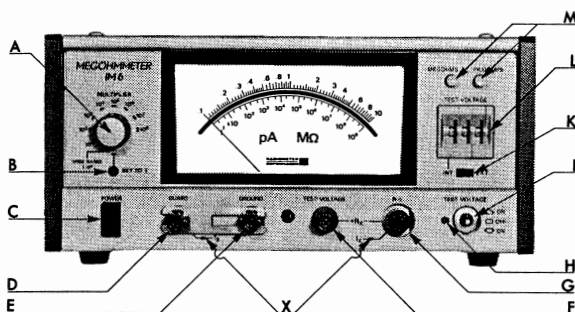

Fig.D1. Front Panel Controls and Terminals.
Refer to Figs.D1 and D2.
- Depress the power switch C, Fig.D1. The built-in lamp should light when the line supply is turned on.
- Set the MULTIPLIER to SET TO.1 and, if necessary, adjust the preset potentiometer B, Fig.D1, until the meter pointer indicates ".1" on the upper scale.
- Depress the MEGOHMS button M, Fig. D1.
- c) Connect the I_x between the terminals GUARD and R-I (X in Fig.D1).